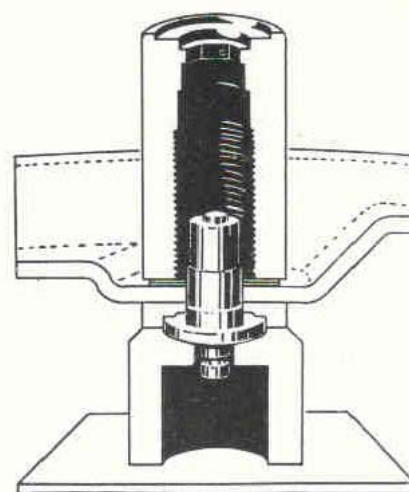

Fig. 23. Fitting the washers.
2. Turn the cushioning sleeve and place a new pin above it. Fit the adjusting cam (4), brake backing plate (1), spacing washer (3) and the internally toothed sprung washer (2) over the pin. Press down the washers with the help of the staking tool, see Fig. 23.